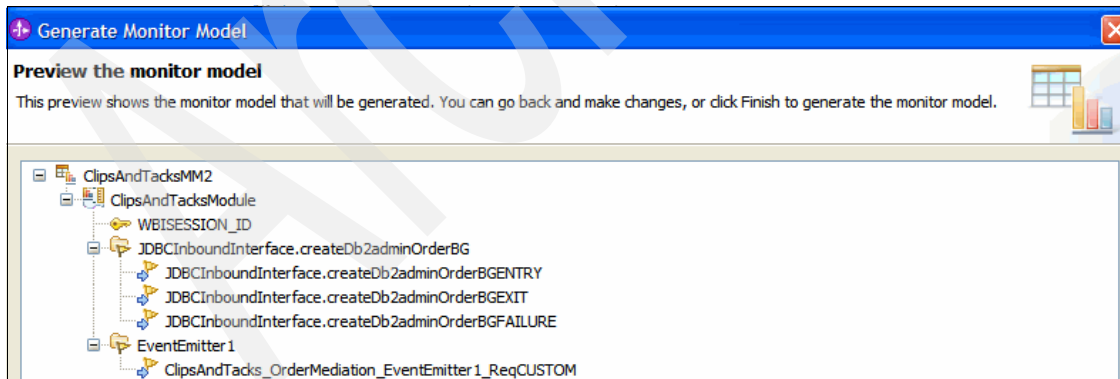

Figure 6-100 Previewing the monitor model
5. In the Preview the monitor model window, click **Expand All** and review that you have configured the events correctly. Figure 6-100 shows the results. Click **Finish**.